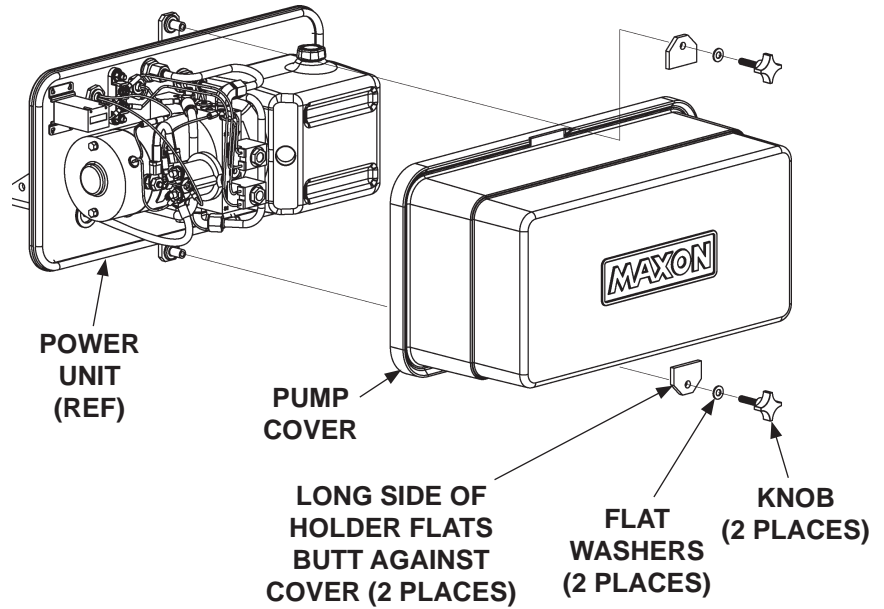

FIG. 7-1
10. Attach the pump cover as shown in FIG. 7-1. Hand tighten the threaded cover knobs.